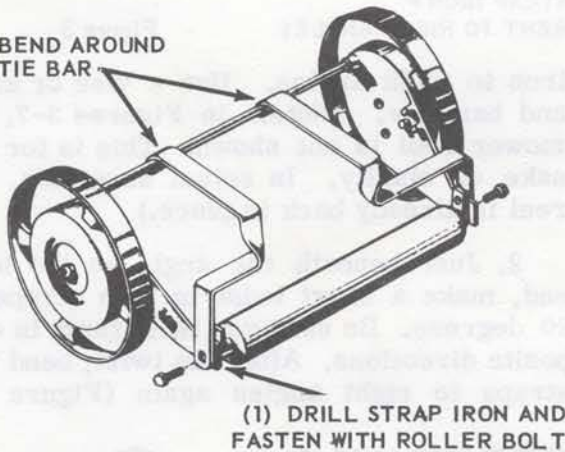

Figure 6
4. Drill a hole in each one that will be large enough for the roller's anchor pin or bolt to pass through. Fasten it to the roller (Figure 6).
5. The other end of the frame supports can be bent tightly around the tie rod (Figure 6). Use the hammer holding a heavy piece of steel tight against the tie rod. Hold it on the opposite side from where you are hammering. This will absorb the force of the hammer blow.